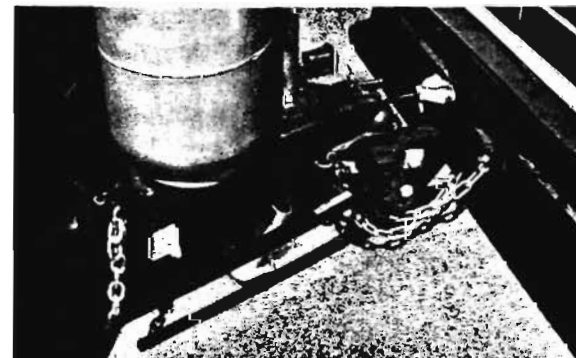

Fig 12
**CAUTION:** Retract the hitch jack completely for maximum ground clearance. Remove the jack pad (See Fig. 12) and stow in the car's trunk along with leveling jack, and other gear used when stopped. **NEVER TOW YOUR TRAILER WITH THE JACK DOWN.** Check that the fold-away step is up and that the main door is completely closed and **LOCKED** for towing. If it is not locked the constant vibration of travel may cause it to open with possible damage.